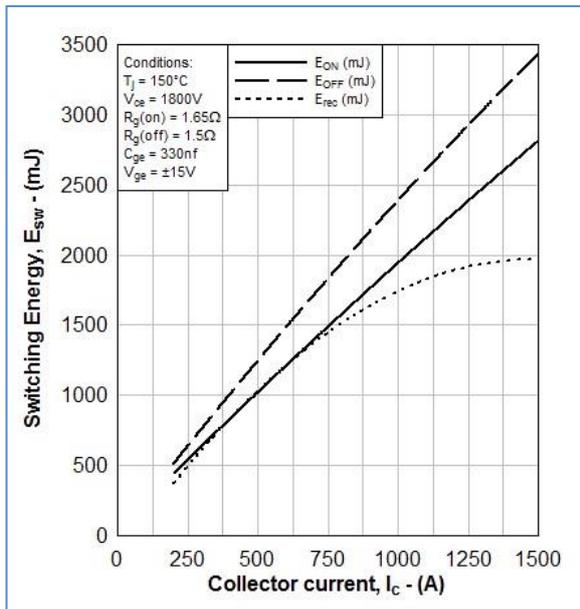

Figure 5: Typical switching energy VS collector current
- i)  $E_{ON}$ ,  $E_{OFF}$  and  $E_{rec}$  Vs collector current see Fig. 5 and